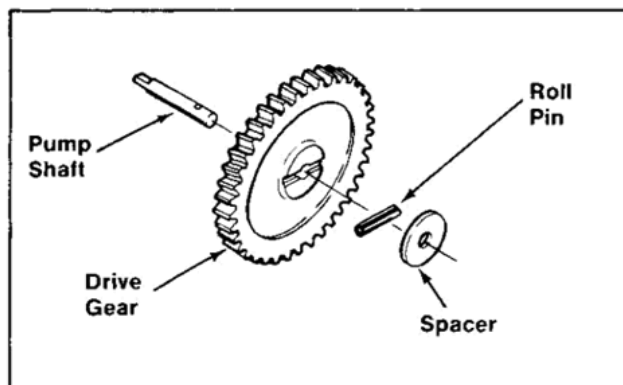

Figure 11-1. Installing Oil Pump Drive Gear.
1. Install the shim spacer (next to support rib), oil pump drive gear (slotted end of gear hub towards spacer and rib), and oil pump drive shaft (through support rib and into pump cavity). Refer to Figures 11-1 and 11-3.